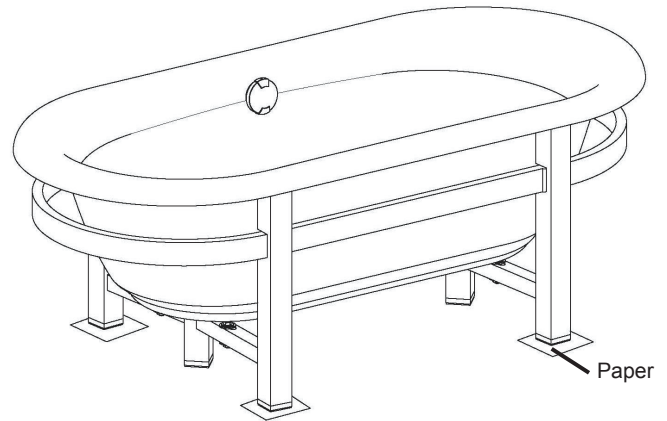

Figure 13. Location for Double-Ended Bath
1. Fasten a piece of paper on the permanent location that the wood frame will be attached to the foundation. The paper should be fastened with tape in a manner that it does not move, see Figure 13.